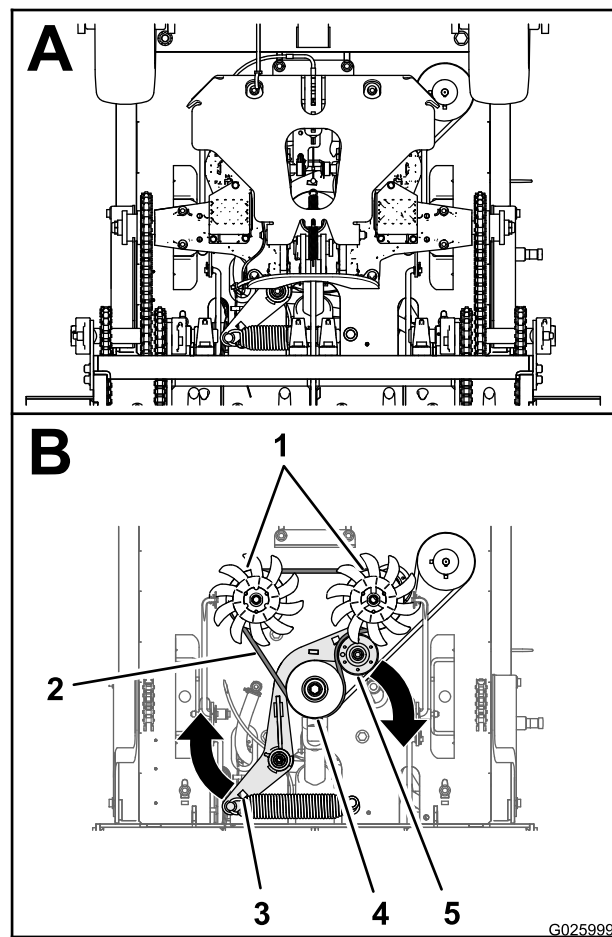

Figure 52
2. Insert a breaker bar into the socket of the belt-tension bracket and move the bracket outward and forward (Figure 52).
3. Slip the transmission-drive belt of the engine, tensioner, and transmission pulleys (Figure 52).
4. Route the new transmission-drive belt around the engine, tensioner, and transmission pulleys as shown in Figure 52
5. Release the belt-tension bracket and allow the spring to tension the belt (Figure 52).